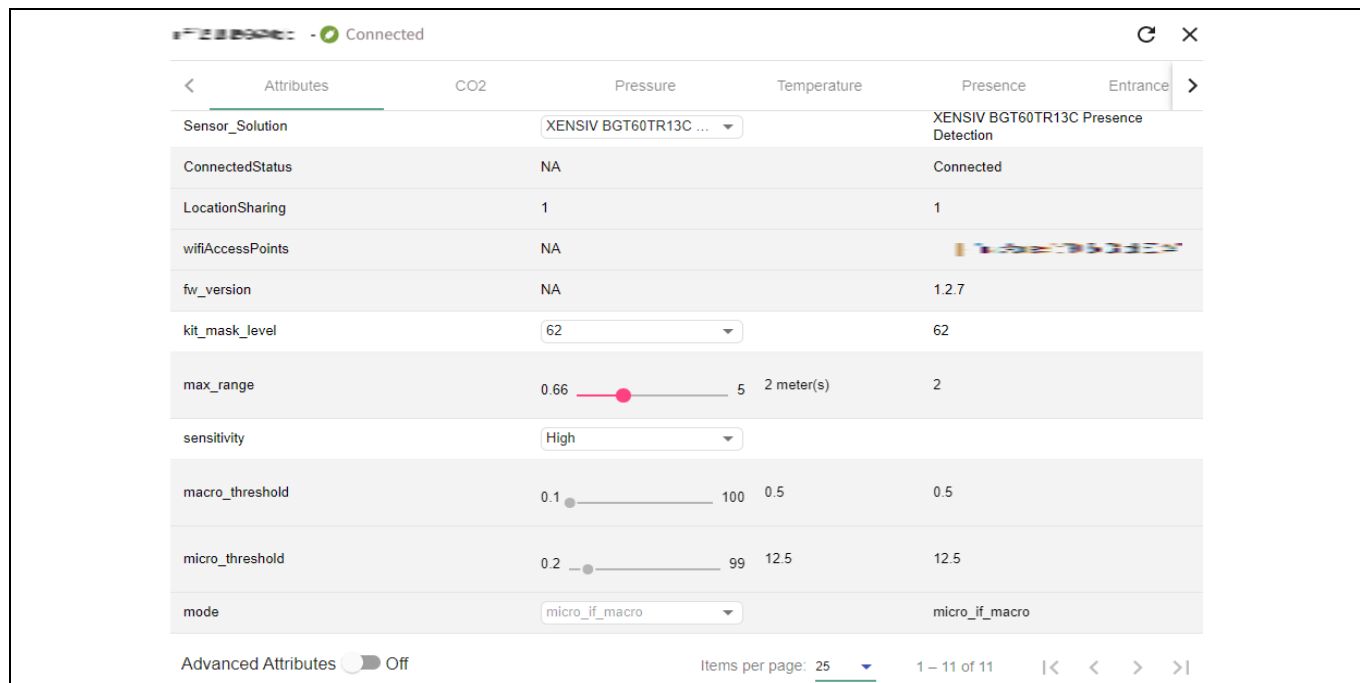

Figure 17 Presence detection attributes
- For the Presence Detection use case, see the list of attributes as shown in Figure 17.